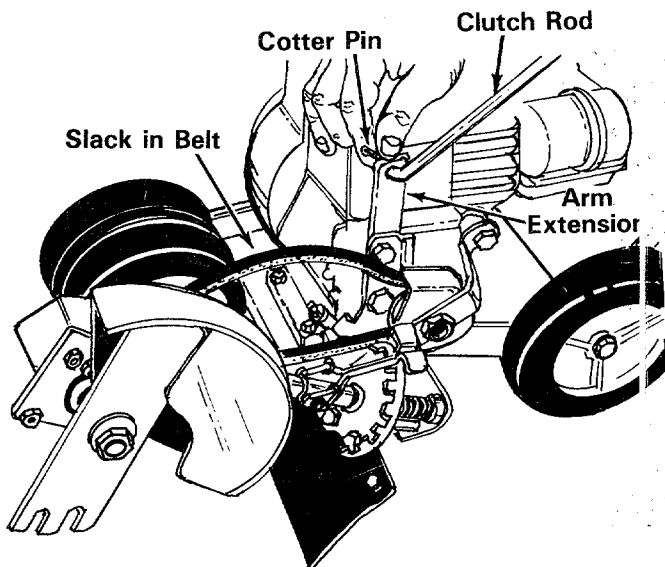

FIGURE 11
6. Pull the blade and guard assembly all the way back by hand until there is slack in the belt. See figure 11.
7. Secure the end of the lower clutch rod half to the arm extensior on the pivot bracket with cotter pin. See figure 11.